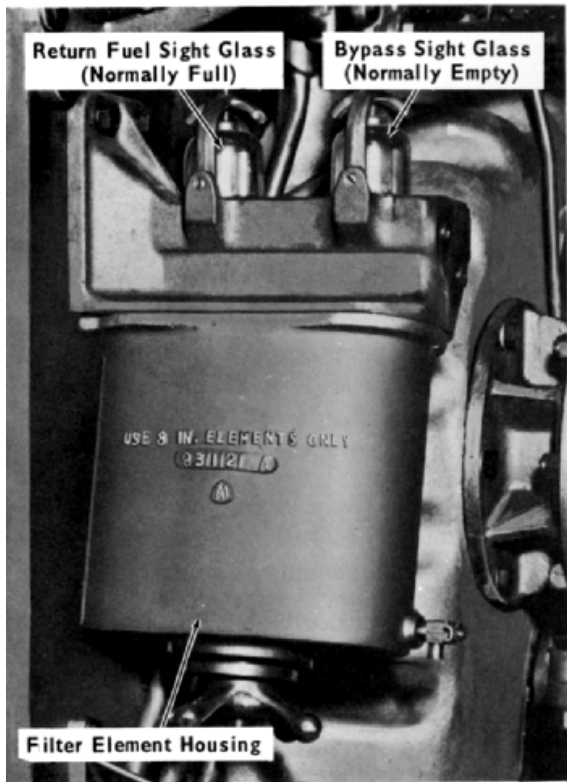

Fig. 3-3 - Fuel Oil Sight Glasses
3. When the return fuel sight glass, Fig. 3-3, is full and free of bubbles, position the injector rack positioning lever (layshaft) at about one-third rack (about 1.6 on the scale) before cranking is started. Then move the fuel prime/engine start switch to the ENGINE START position. Hold the layshaft firmly at the 1.6 rack until the engine starts.